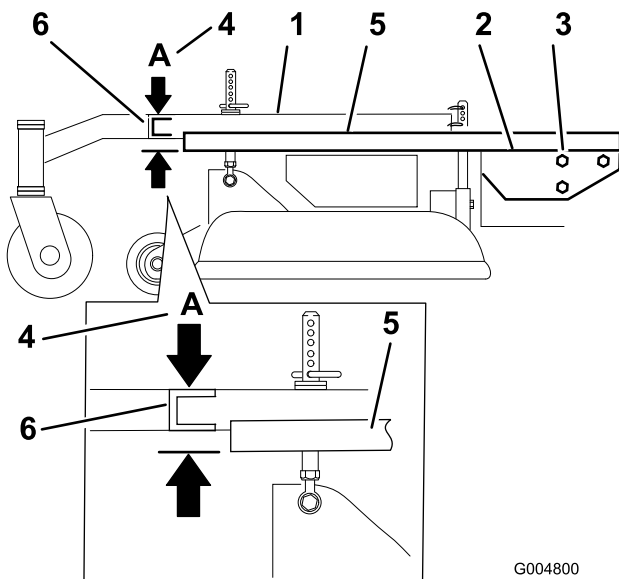

Figure 62
3. Place a long straight edge on top of the engine deck as shown in Figure 62.
4. At the carrier frame cross channel, measure the height at location **A** (Figure 62).
6. Loosen the carrier frame mounting bolts on both sides of the machine (Figure 62).
7. Align the carrier frame and engine deck to match 33 mm (1-5/16 inch), plus or minus 6 mm (1/4 inch) at location **A** (Figure 62).